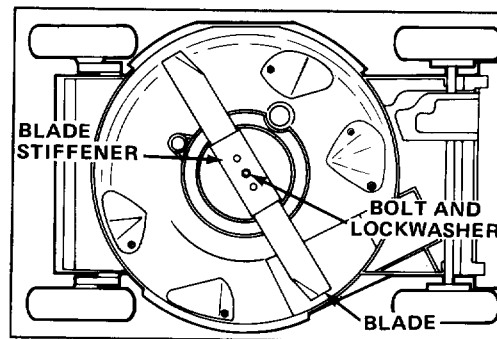

Figure 17
3. Tip mower on its right side (Fig. 17). Avoid rotating the blade because starting problems may result.
5. **REMOVING BLADE**—Grasp end of blade using a rag or thickly padded glove. Remove blade bolt, lockwasher, blade stiffener, and blade (Fig. 17).